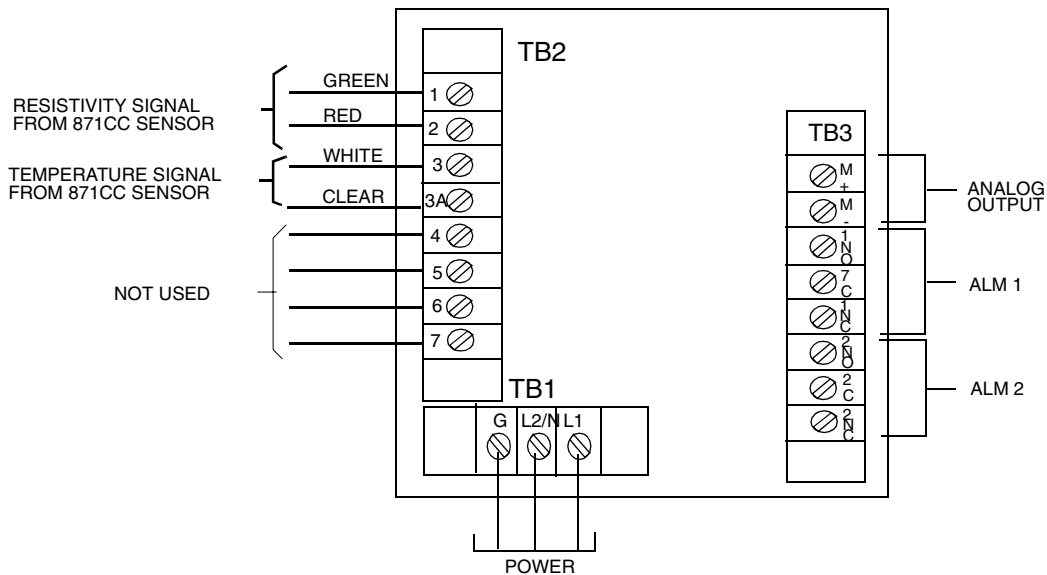

Figure 1. Plastic Enclosure Rear Panel Wiring
2. Connect ALM 1 and ALM 2 alarm wires to terminal block TB3 as shown in Figure 1. Failsafe operation requires connections be made between NC and C. For details see “Wiring of Alarms” on page 19.
3. Connect wires from external circuit to analog output terminals TB3 (M+) and TB3 (M–). Refer to Figure 1.
5. Connect sensor wires to terminal block TB2 as shown in Figure 1.
6. Connect power wires to terminal block TB1 as shown in Figure 1.